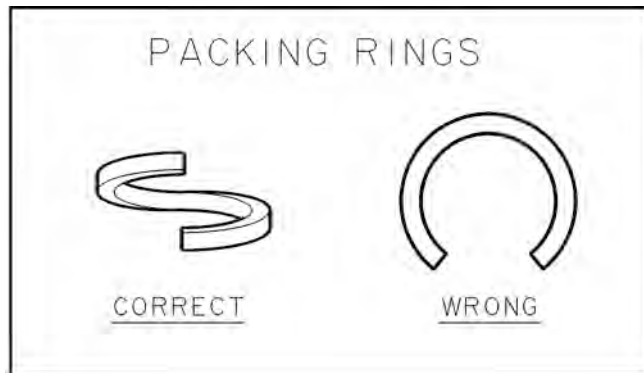

Figure 19:
2. Twist the packing just enough to get it around the shaft (Fig. 19, 20).